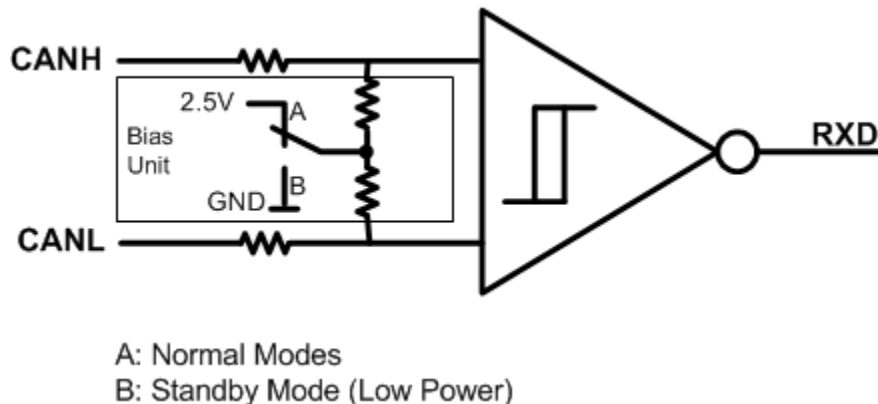

Figure 14. Bias Unit (Recessive Common Mode Bias) and Receiver
(1) H = high level, L = low level, X = irrelevant, Z = common mode (recessive) bias to $V_{CC} / 2$. See and Figure 14 for bus state and common mode bias information.
(2) Devices have an internal pull up to V_{CC} or V_{IO} on TXD terminal. If the TXD terminal is open the terminal will be pulled high and the transmitter will remain in recessive (non-driven) state.